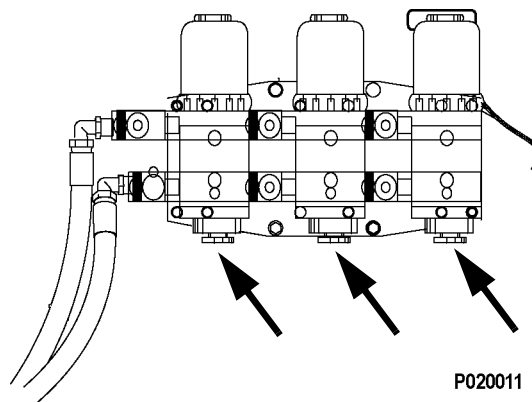

FIGURE 40-5. STAGE 1 FUEL FILTERS & WATER SEPERATORS
13.	FUEL FILTERS - Drain any water from the bottom drain valve on each of the three Stage 1 fuel filter water separators. See Figure 40-5.